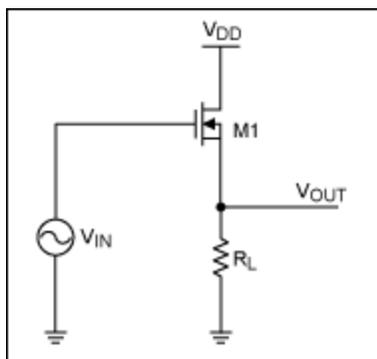
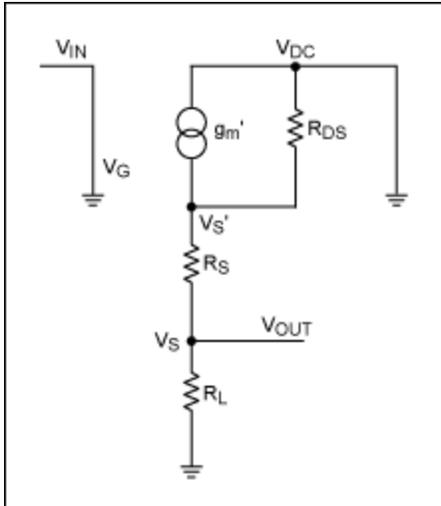
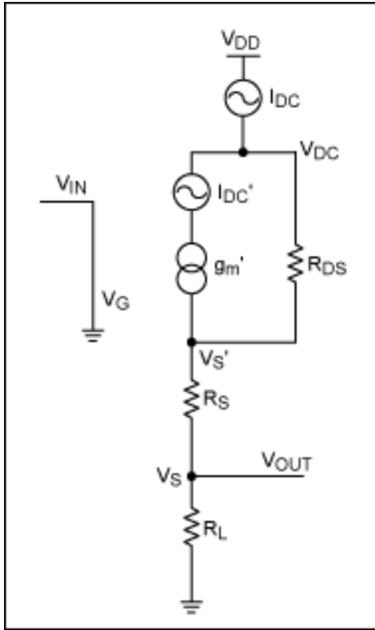

Figure 1. Test circuit for gain measurements.
Figure 2. Small-signal model of the Figure 1 circuit.
Figure 3. A DC model of the simple common-drain follower.
The circuit in **Figure 1** shows a simple common-drain amplifier used to measure gain.
**Figure 2** shows a small-signal model that can be drawn from the Figure 1 circuit.
From Figure 2, it can be shown that the gain (G) of a simple common-drain follower is:
Using a TSMC 0.18 $\mu$ m process with a CMOS device (the Figure 1 nFET, M1) having a width of 5 $\mu$ m and a length of 0.18 $\mu$ m, the expected gain and measured gain were obtained for a 100mV AC waveform at 10kHz (see **Table 1**).
**Figure 3** shows the circuit that results from calculating a DC solution for the Figure 2 small-signal model.
The following parameters can be extracted from a simulation using the Figure 3 model:
Using the Figure 2 small-signal model, the following measured gain equation can be derived. This equation takes into account the effects of  $g_m'$  by  $R_{DS}$ , as previously described.